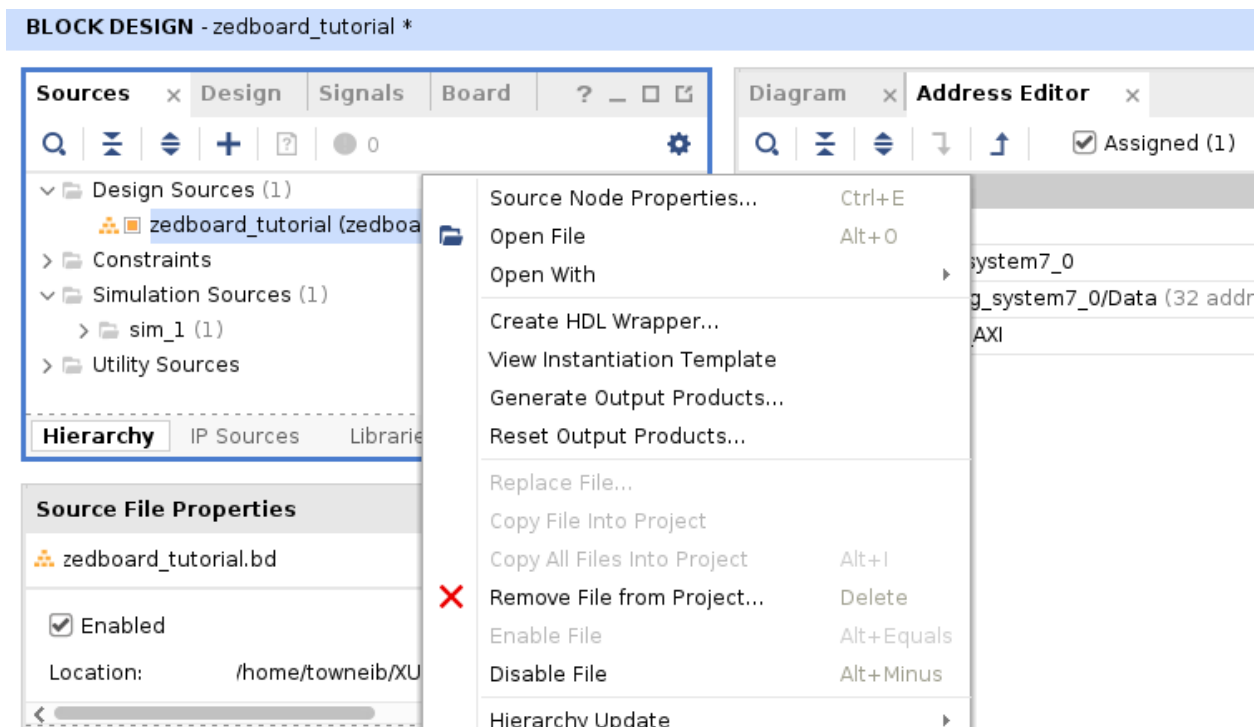

Figure 14: The “Sources” tab and the context menu opened by right-clicking on the block diagram file.
- i. Go to the “Sources” tab, click on the “Design Sources” folder, and then right-click on the “zedboard\_tutorial.bd” file as shown in Figure 14. Click “Create
- ii. Going back to the “Design Sources” folder, click on the “zedboard\_tutorial\_wrapper” dropdown and then right-click on the block diagram file again, this time clicking “Generate Output Products” as shown in Figure 14. Click “Generate” on the window that appears.